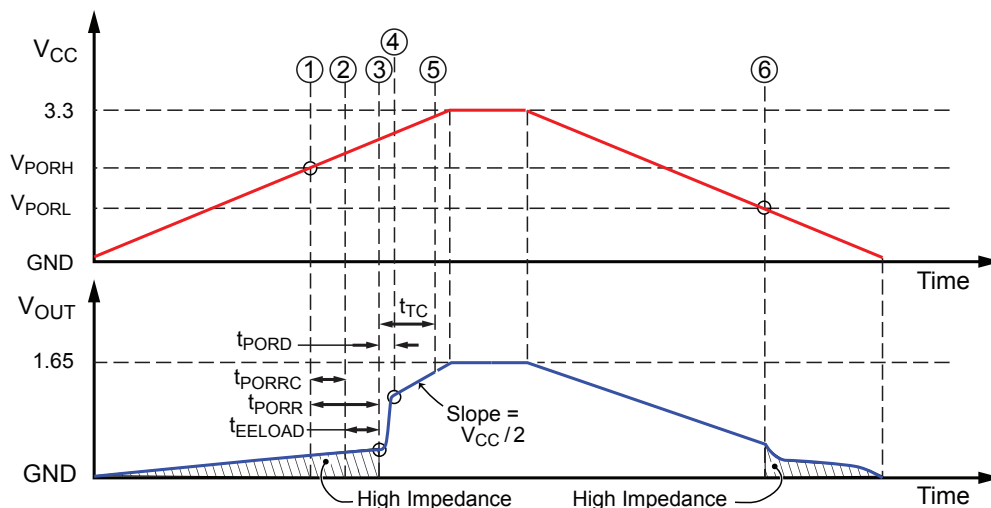
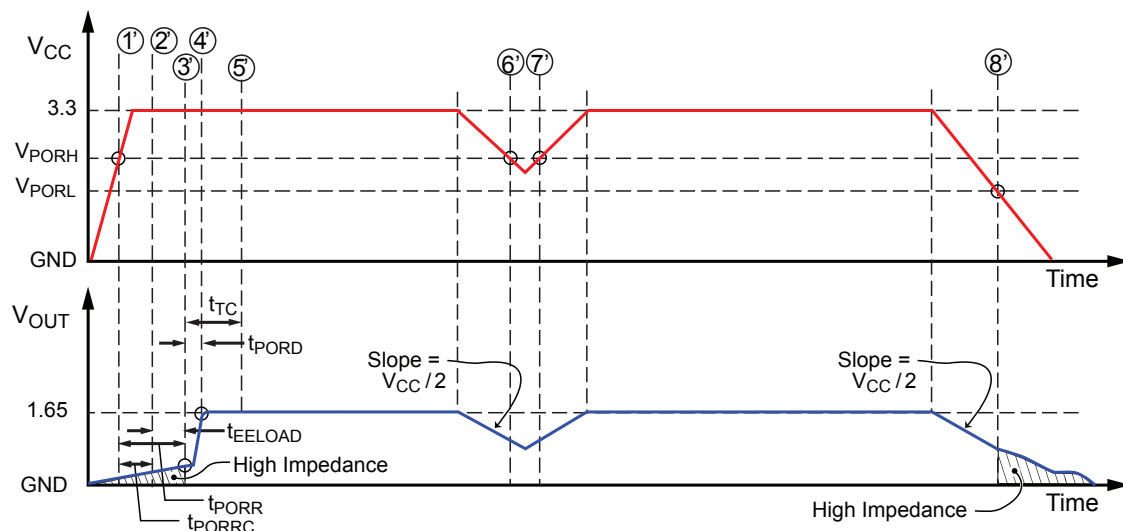

Figure 1: POR Operation: Slow Rise Time Case
Figure 2: POR Operation: Fast Rise Time Case
- Power-Up.** At power-up, as V_{CC} ramps up, the output is in a high-impedance state. When V_{CC} crosses V_{PORH} (location [1] in Figure 1 and [1'] in Figure 2), the POR Release counter starts counting for t_{PORRC} [2], [2']. At this point, the EEPROM content will be loaded in volatile memory after t_{EELOAD} [3],[3'] and the output will go to $V_{CC}/2$ after t_{PORD} [4], [4']. The temperature compensation engine will then adjust the